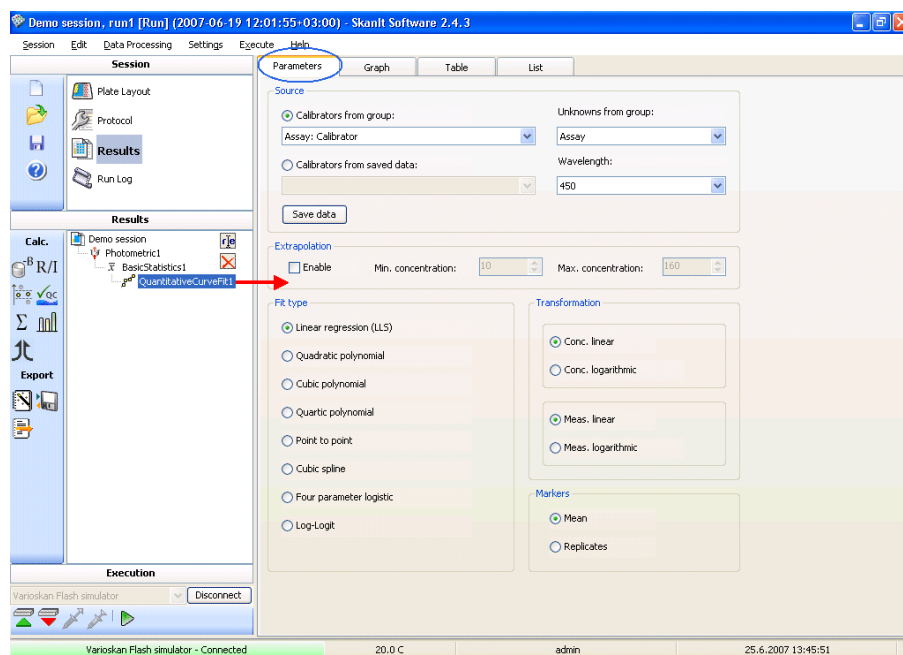
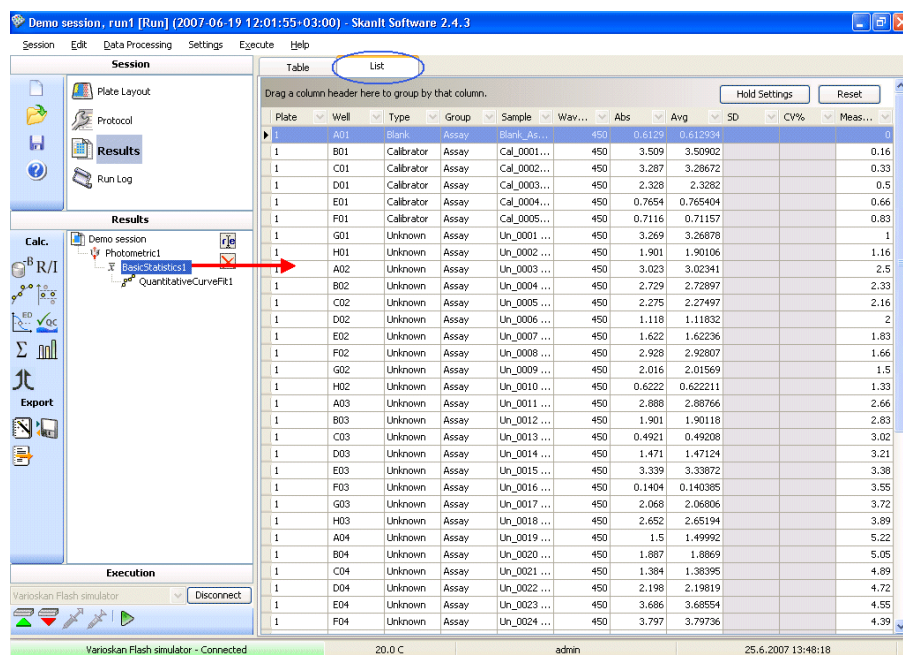

Figure 3-6. Main window for results editing - calculation parameters
Figure 3-7. Main window for results viewing - calculation results as a list
- When a calculation is selected, the calculation parameters (Figure 3-6) or the calculation results can be viewed in the table and list views (Figure 3-7).